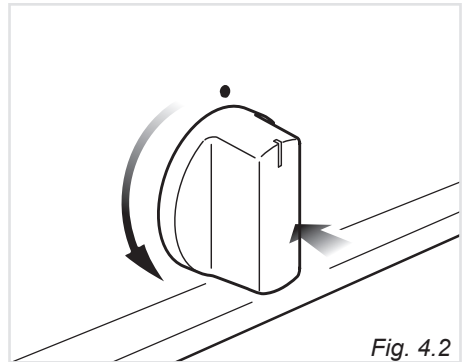

Fig. 4.2
2. Lightly press and turn the thermostat knob anti-clockwise (fig. 4.2) to max position **285** ★ (fig. 4.1). Press the knob firmly until the burner lights.